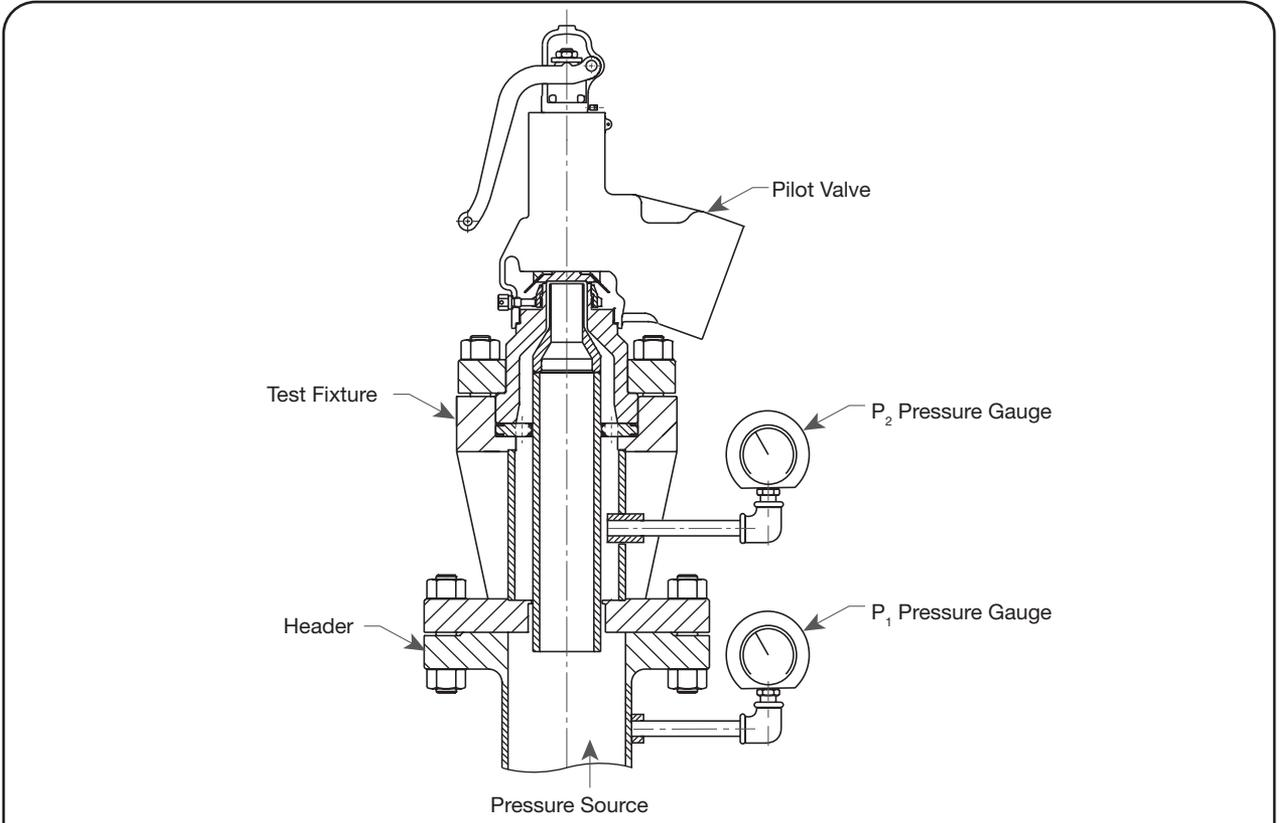

Figure 20: Pilot Testing Fixture
1. Due to large capacity of the main valve, it is impossible to adjust the pilot and main valve as an assembly unless on an actual installation. To obtain a valve setting on other than an actual installation, the pilot can be removed from the main valve and adjusted on a small test facility complying with the following requirements. Reference Figures 20 and 21.
- b. The test fixture indicated in Figure 20 should be equipped with a 4"-300# (101.6 mm - 20.4 barg) RF ASA flange on the lower end and have appropriate machining and drilling on the top end to match the pilot flange (Baker Hughes Part No. 4130901).
- c. The test set up should be equipped with P₁ and P₂ pressure gauges as indicated in Figure 20. The P₁ gauge will sense inlet pressure and P₂ will sense pressure equivalent to that back of the main valve disc when the main valve is open.